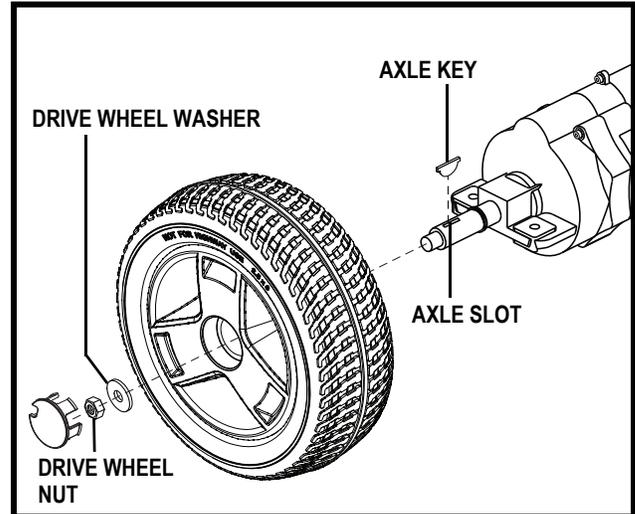

Figure 26. Solid Tyre Wheel Removal
3. Remove the drive wheel nut and washer from the axle. See figure 26.
5. Slide the new wheel onto the axle. Make sure that the axle key is in the axle slot. See figure 26.